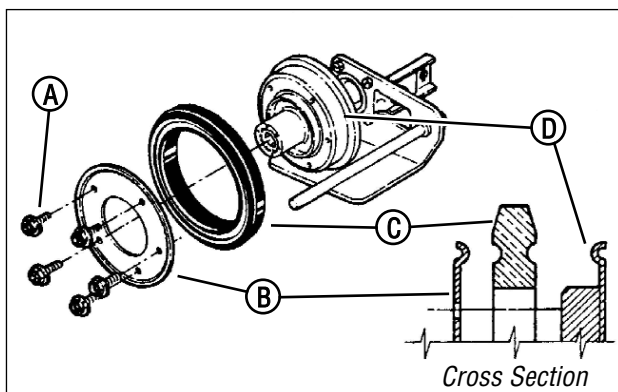

Figure 30: Replacing the driven disc rubber ring
- Remove the five machine screws (A, Figure 30) and plate (B) which secure the rubber ring (C) to the driven disc hub (D).